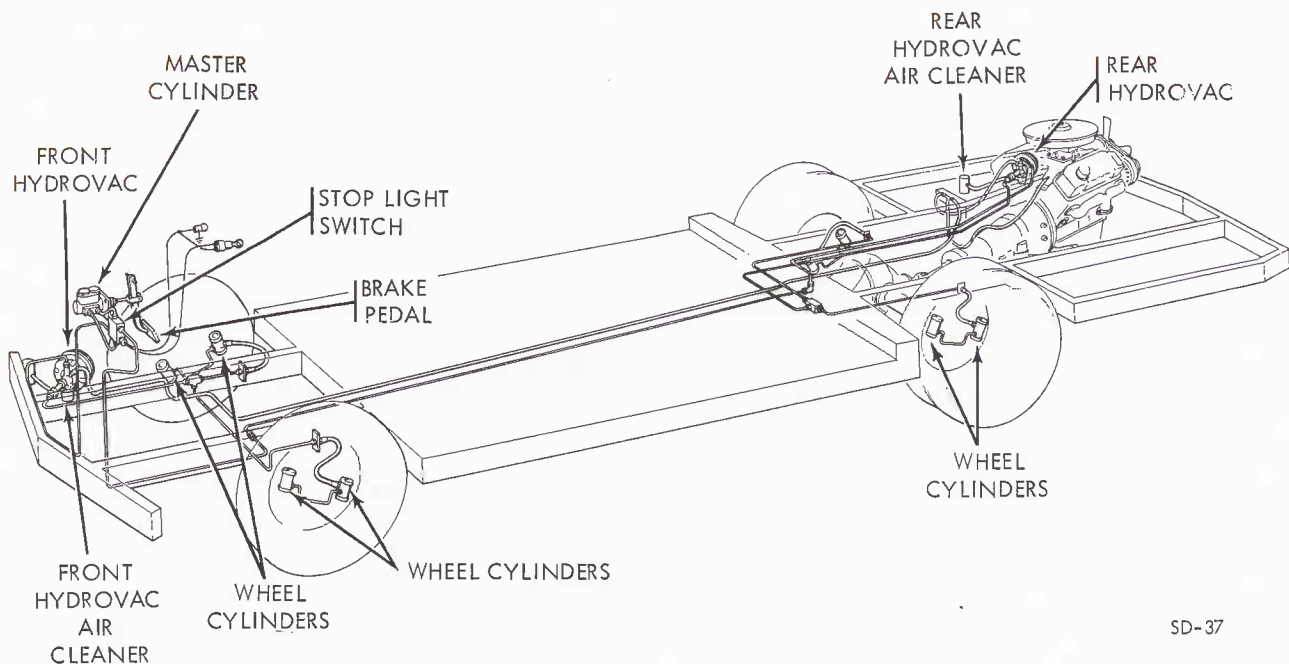

Figure 4-26. Brake System - Service
a. Service. When you depress the brake pedal on your coach, two assist units, technically dubbed "Hydrovac," operate to power the application of the brakes (fig. 4-26). A slight movement of the brake pedal opens an engine vacuum line which activates both the front and rear hydrovac units to increase the brake fluid pressure and apply the brakes. The front hydrovac boosts the pressure to the front wheel brakes, and the rear hydrovac boosts pressure to the rear brakes. Construction is such that, in case of an engine failure and loss of vacuum power, the brakes will function as in a conventional nonpowered hydraulic brake system. More physical effort is required, however, than when the hydrovac is operating.